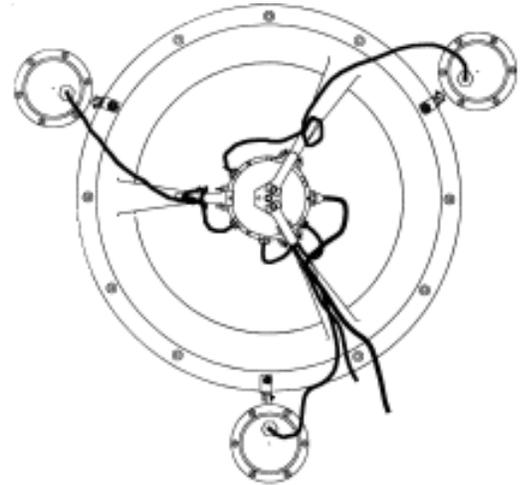

Figure 3
D. Each fixture comes with 6-8 feet of cord. This cord is provided to allow removal of the fixture from the float while in the water. To prevent the cord from interfering with the aerator, wrap the excess cord in a small loop and secure the cord to a support arm with the ty-wraps provided. Repeat for each fixture. (See Figure 3)